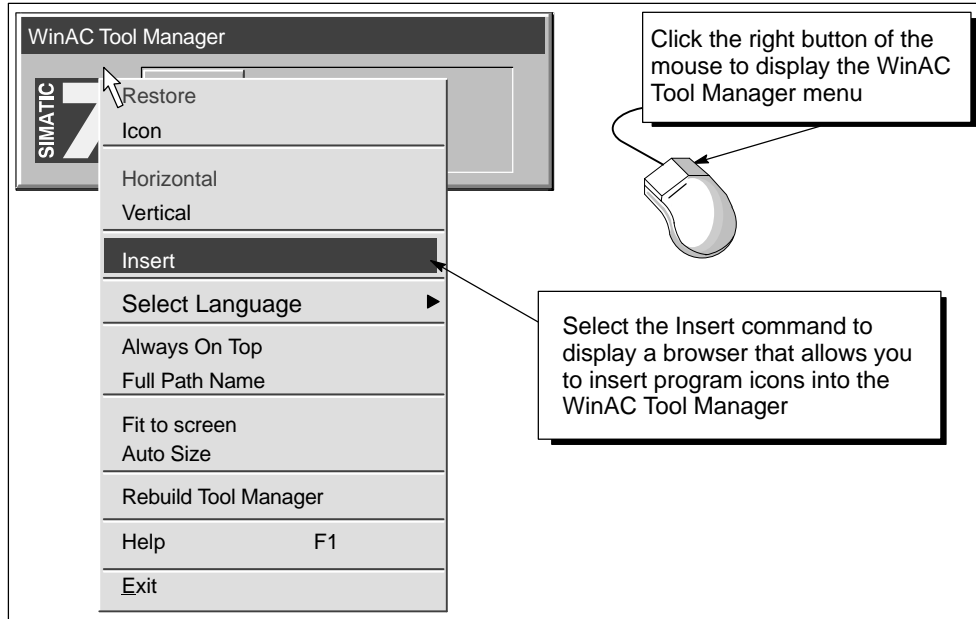

Figure 4-2 Inserting Icons into the WinAC Tool Manager
- Choose **Insert** from the menu in WinAC Tool Manager (refer to Figure 4-2).
2. Open the menu in WinAC Tool Manager by right-clicking (refer to Figure 4-2).
You can use the mouse to resize the WinAC Tool Manager. You can likewise use menu commands (refer to Figure 4-2) to customize the WinAC Tool Manager: